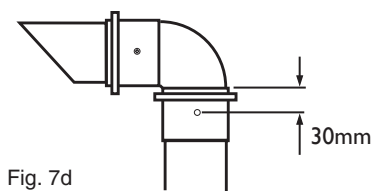

Fig. 7d
13. Mark and drill the 60Ø exhaust, using a 2mm bit, as shown in Fig. 7d. Complete the installation of the 60Ø exhaust, securing in the brackets.